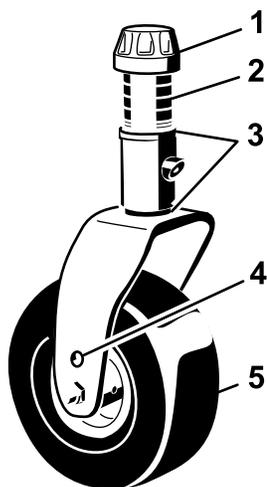

Figure 28
3. Adjust the shims (3 mm or 1/8 inch) on the front caster fork(s) to match the height-of-cut decal (Figure 28); refer to Adjusting the Mower-Deck Pitch (page 70).